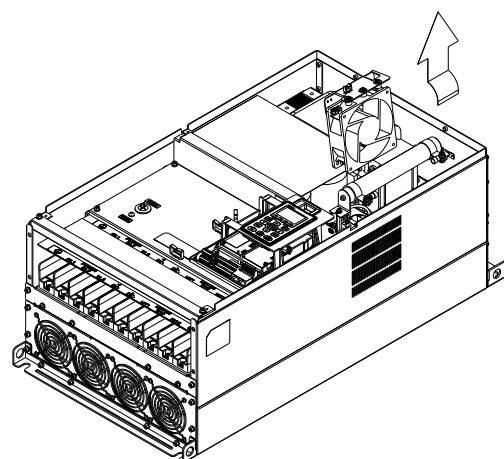

Figure 4
3. Loosen the screws and remove the fan. (figure 3 and figure 4) Screw torque: 12–15 kg-cm / [10.4–13 lb-in.] / [1.2–1.5 Nm]